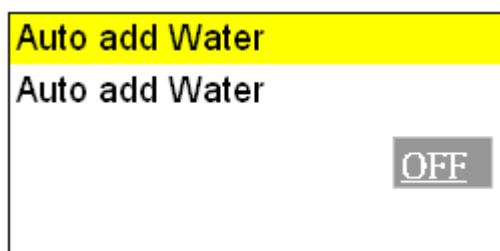

Figure 131
- B. Press  button to the editing mode as shown in Figure 131.